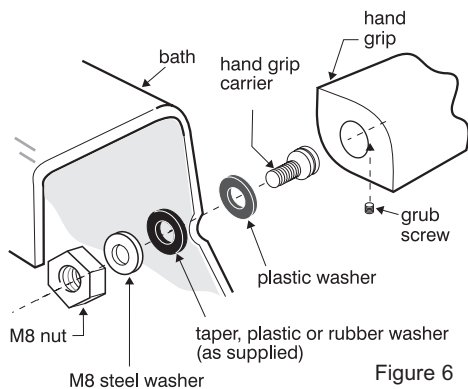

Figure 6
2. Fit hand grips (where supplied), see Figure 6.